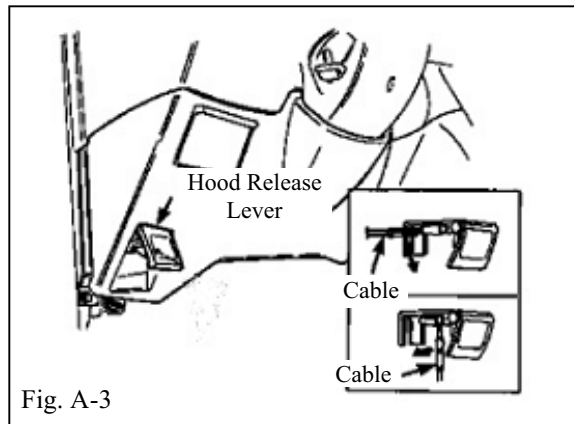

Fig. A-3
5. Remove the hood release lever cable. (Fig. A-3)